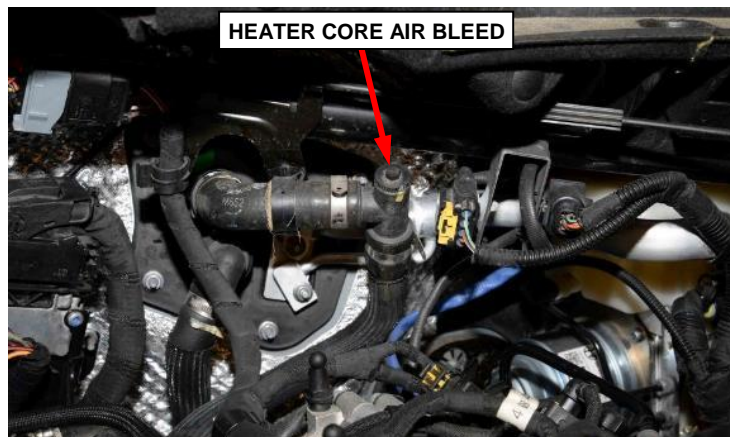

Figure 11 – Heater Core Air Bleed
30. Loosen the heater core air bleed to assist with coolant draining (Figure 11).
18. Fill the cooling system coolant expansion tank with the captured coolant until coolant is coming out of the three bleed screws and tighten the bleed screws (Figures 11, 14, 15). Add additional coolant as necessary to bring the coolant reservoir to the proper level.